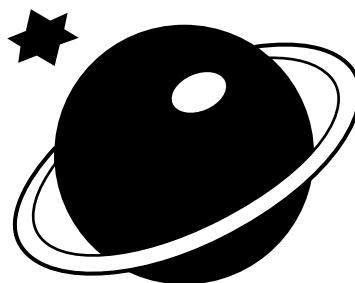

Fig. 6
- (e) Fig. 6 shows the logo to be applied to the DVD package.